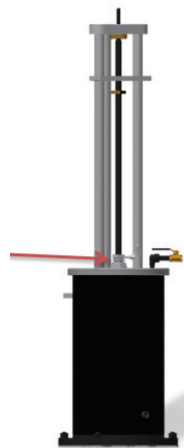

Figure 61
5.0.21) Lift the insertion housing vertically onto the alignment plate. Ensure packing nut thumb screw is loose and that cartridge is sitting flush against the cartridge alignment plate (see Figure 61).